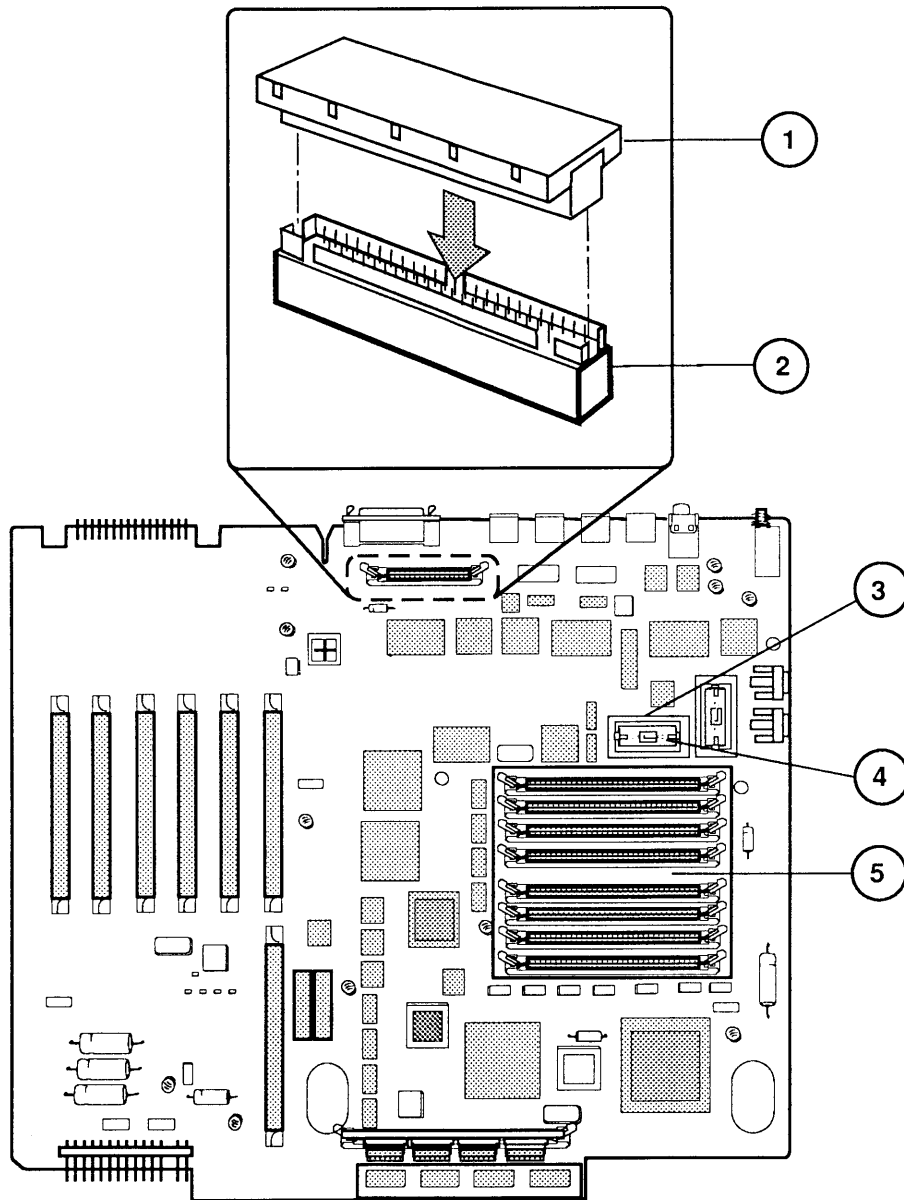

FIGURE 4
- IPL.9 Macintosh IIfx – Logic Board (Figure 4)
□ **MACINTOSH IIfx—LOGIC BOARD (Figure 4)**